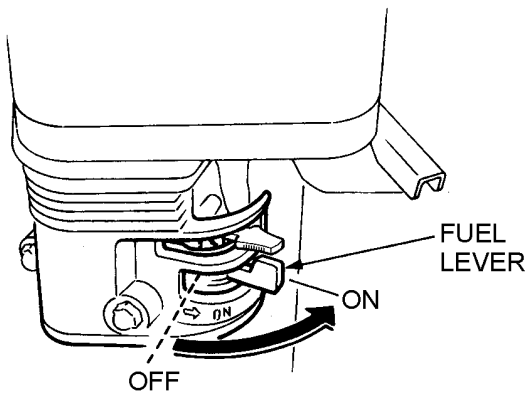

Figure 6. Engine Fuel Valve Lever (ON Position)
1. Place the engine fuel valve lever (Figure 6) to the "ON" position.